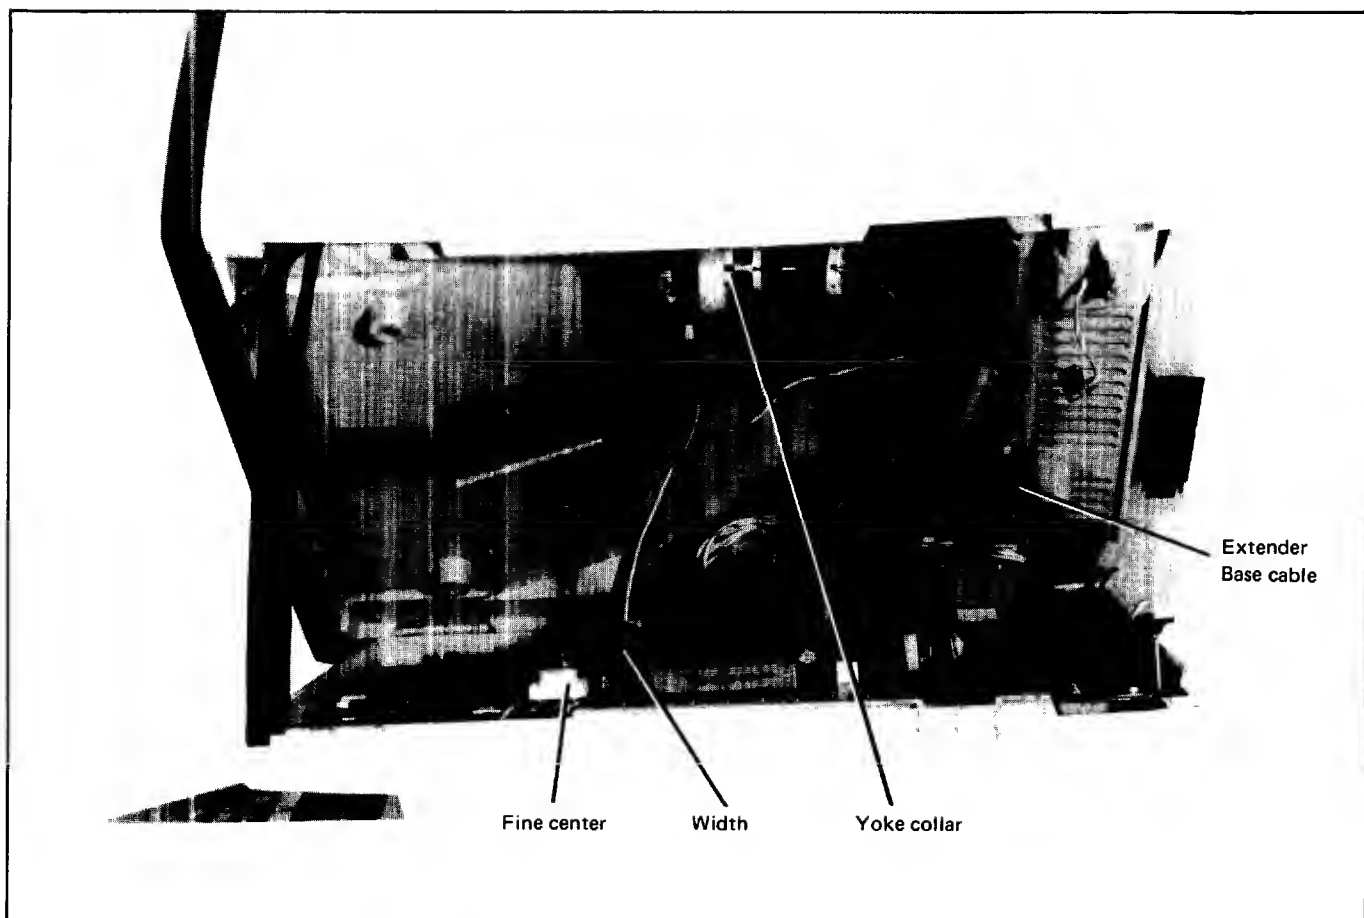
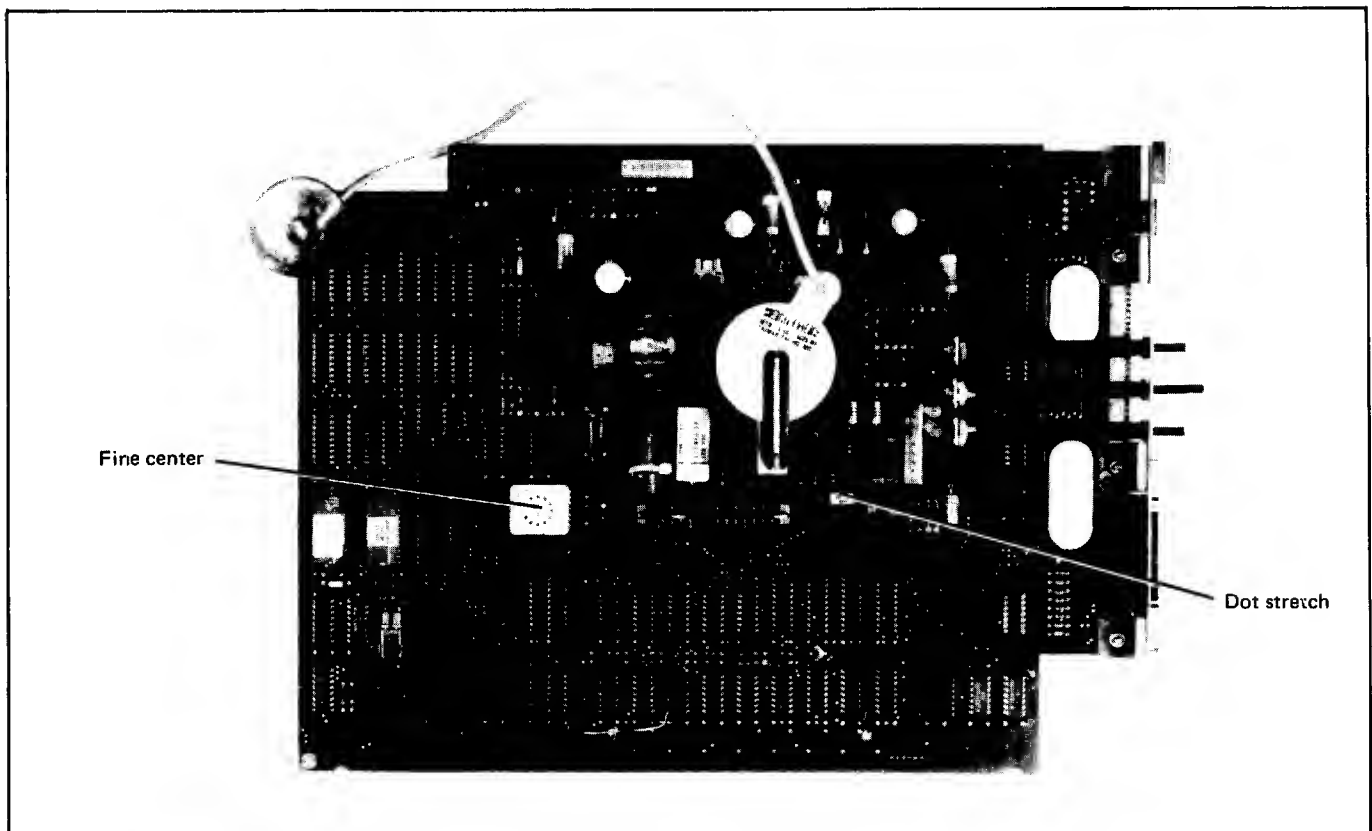

Figure 5-4 Location of Raster Width Adjustment And Yoke Collar
Figure 5-5 Dot Stretch And Fine Center Adjustment
6. Use the alignment tool to adjust the width adjustment on the Processor PCA (fig 5-4) to expand or contract the display in the horizontal axis.
7. When needed, the rough centering of the display may be adjusted, by rotating the two centering magnets on the Yoke collar (Fig 5-4) ; once this adjustment is correct, a fine adjustment of the display in the horizontal plane can be performed, using the rotary switch (figure 5-5).
8. While observing the display, adjust the dot stretch adjustment (figure 5-5) on the Processor PCA to produce either uniform width of the vertical and horizontal lines which form a character or the most desirable overall display effect.
9. To adjust a tilted display; first loosen the yoke screw collar (see figure 5-4). The yoke assembly on the CRT neck must then be rotated using its plastic doughnut-shaped body. After making the adjustment retighten the yoke collar screw.